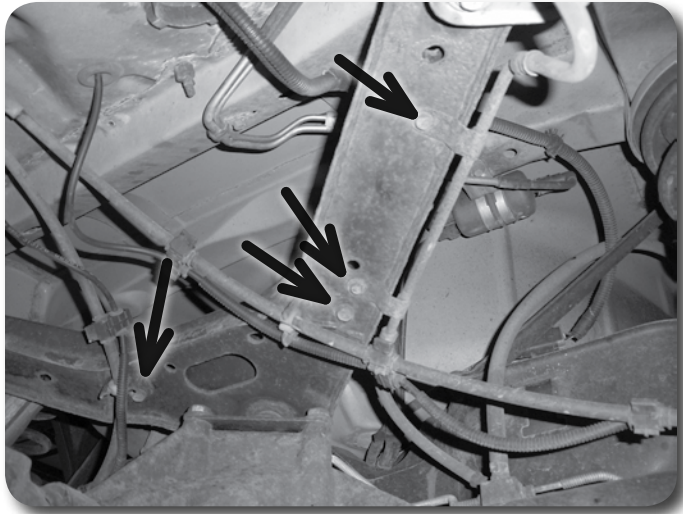

Figure 11
3. Disconnect the rear brake line from the driver's side of the upper control arm. **Figure 11** Save hardware.
4. Disconnect the parking bracket cable brackets from the driver's and passenger's side of the upper control arm. **Figure 11** Hardware will not be reused.